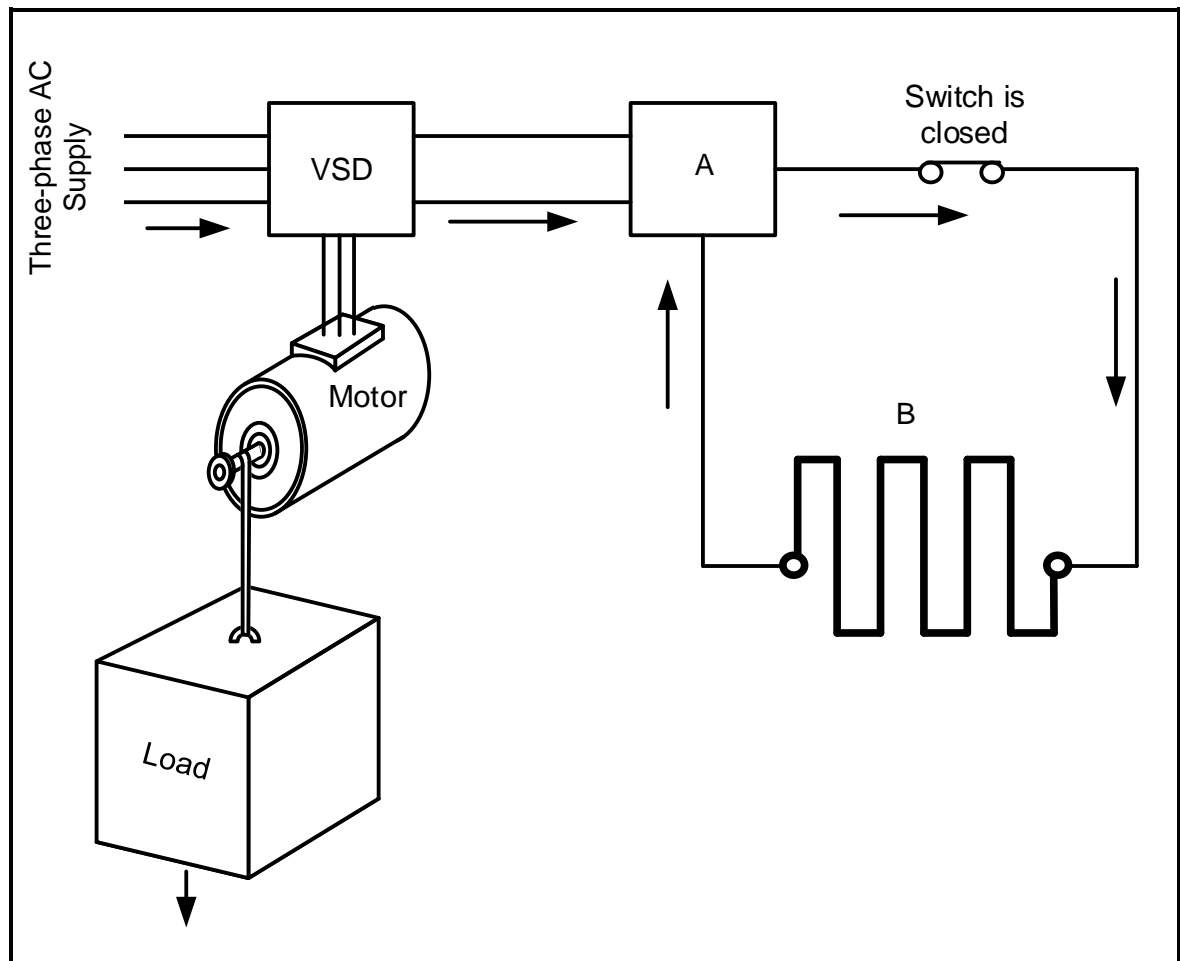

FIGURE 6.13: REGENERATIVE-BRAKING MOTOR CONTROL CIRCUIT
6.13 Refer to FIGURE 6.13 below and answer the questions that follow.
6.14 Explain what will happen to the energy generated by the motor in FIGURE 6.13 when the load moves down. (3)